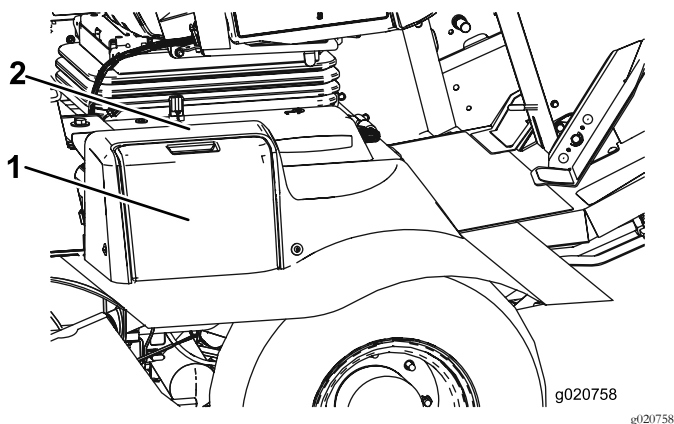

Figure 54
1. Open the battery cover (Figure 54). on the side of the shroud.
Note: Press down on the flat surface above the battery cover to ease cover removal (Figure 54).